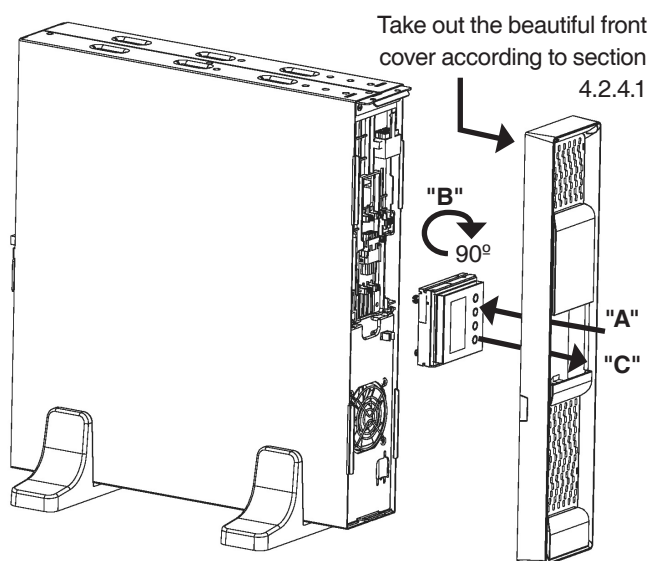

Fig. 5. Rotation of the control panel with LCD over the beautiful plastic front cover.
- To make easier the message reading when the equipment is vertically installed, it is advisable to rotate 90° clockwise the control panel with LCD (see figure 5).